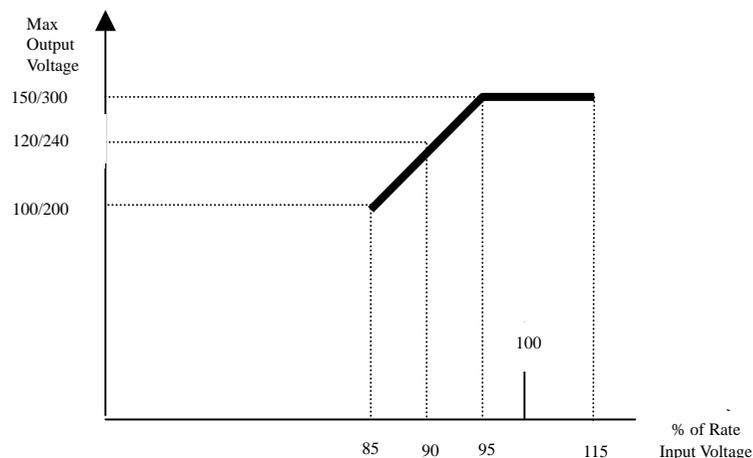

Figure 1.
4. Please make sure the input tolerance of this APS-9301/9501/9102 is within  $\pm 15\%$  of rated voltage (see figure 1)